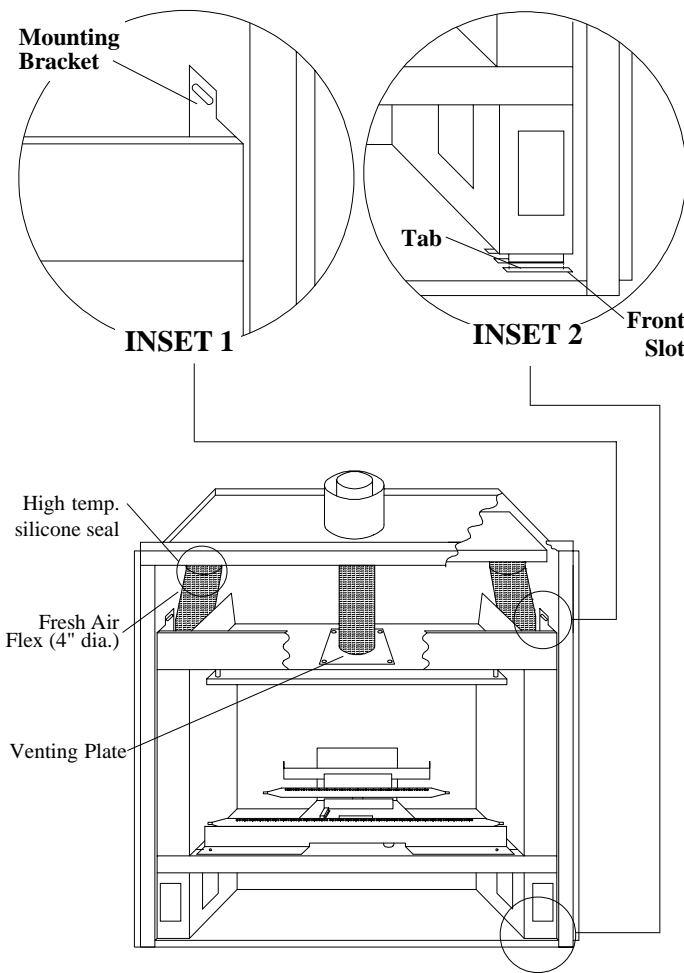

Figure 9. ME38-BV insert.
2. Remove the fresh air flex from the collars on the shell. *See Figure 9. Important: Be careful not to damage the fresh air flex during removal or storage.*